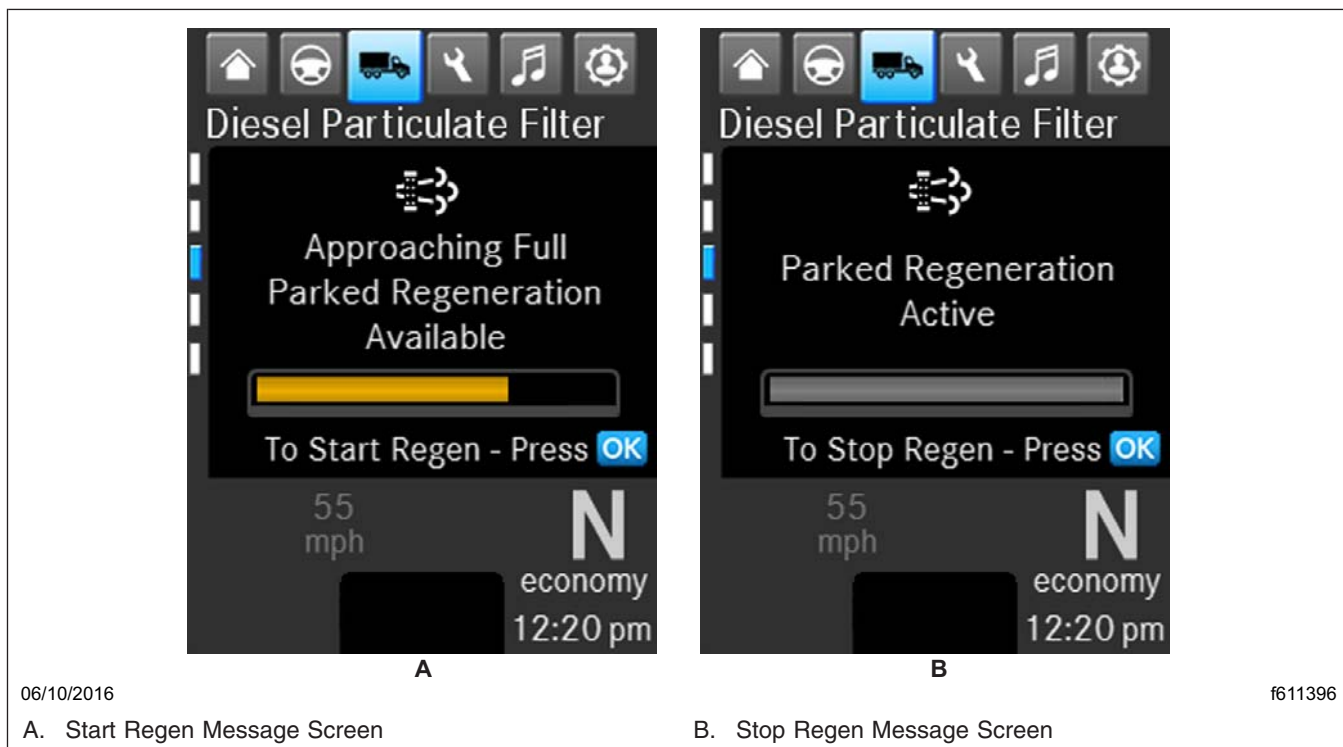

Fig. 12.2, Parked Regen Message Screens
When operating conditions do not allow for emissions ATD filter cleaning by active or passive regen, the vehicle may require a driver-activated **parked regen**. When this occurs, the driver display screen presents a message indicating that a regen is required. See Fig. 12.2. The driver must either bring the vehicle up to highway speed to increase the load (thus starting an active regen), or park the vehicle and initiate a parked regen. See *Regen Operations*, below, for instructions on initiating a parked regen.
Parked regen is initiated by selecting OK when the driver display screen shows "Parked Regen Available" or "Parked Regen Required." See Fig. 12.2. If the vehicle is equipped with the optional digital Stop Regen feature, a parked regen can be stopped by selecting OK while the regen is in progress. See Fig. 12.2.
3. Select OK when the diesel particulate filter (DPF) screen is displayed on the driver display. See Fig. 12.2. Select OK again to confirm regen. As the regen process is initiated, engine rpm increases and the HEST lamp illuminates to indicate extremely high exhaust temperatures.